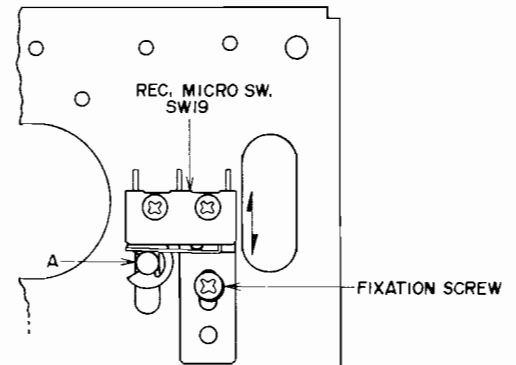

Fig. 14
Loosen the fixation screw shown in Fig. 14 and move the recording micro-switch as indicated by the arrow mark in the figure. Adjust so that when the Recording Button is depressed to effect recording mode, recording micro-switch SW-19 is perfectly turned ON. Fix screw to maintain this condition.
* The part indicated by A in Fig. 14 must not touch the body of the micro-switch.